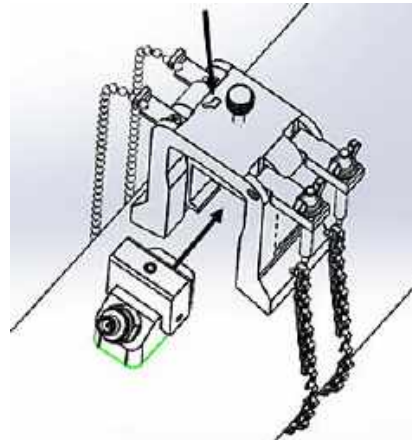

Figure 41: Insert transducer into yoke
8. Loosen the yoke screw. Then, apply couplant to the transducer face and insert the transducer into the yoke, as shown in *Figure 41* below.